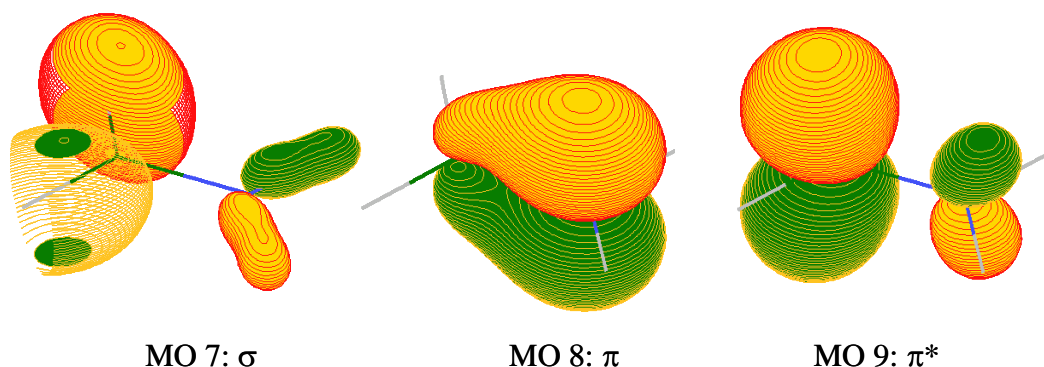

Fig. 2. Molecular orbitals visualized with Molden using contour value 0.1.
*In the current example, inspection of active orbitals (Fig. 2) shows that they correspond to the  $\sigma$ ,  $\pi$  and  $\pi^*$  aimed at. Therefore, no reordering is necessary.*